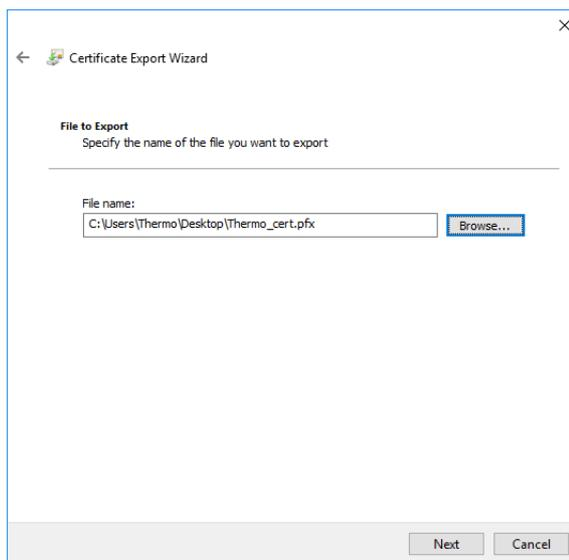

Figure 2-44. Entering file name and location for private key
9. Select a file name and a location for the export, see Figure 2-44.